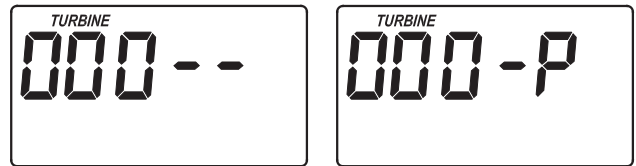

FIG. 30
1. Press and hold for 3 seconds the SELECT button, until one of the screens shown in Figure 30 is displayed. If the valve is in service, backwash or aspirate position (observe markings on the valve cam), the display should show "000 - -", meaning the position switch is open. When the valve is moving, the display should show "000 - P", meaning that the position switch is closed.